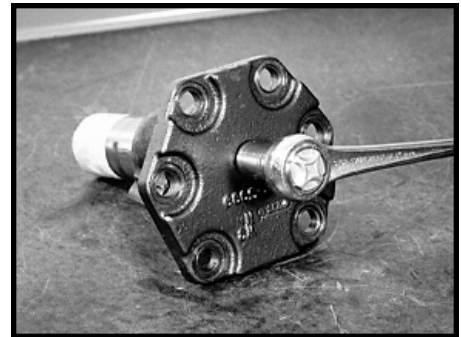

Figure 47
- 11. Remove the sector shaft adjusting screw jam nut (59). SEE FIGURE 47. 3/4 inch socket required.